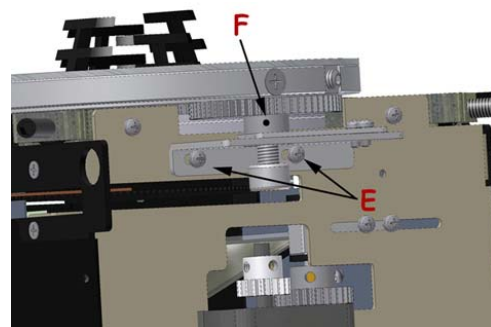

Fig. 3
- Fasten the two screws **D**, see **Fig. 3**.
- Fasten screws **E**, see **Fig. 3**.